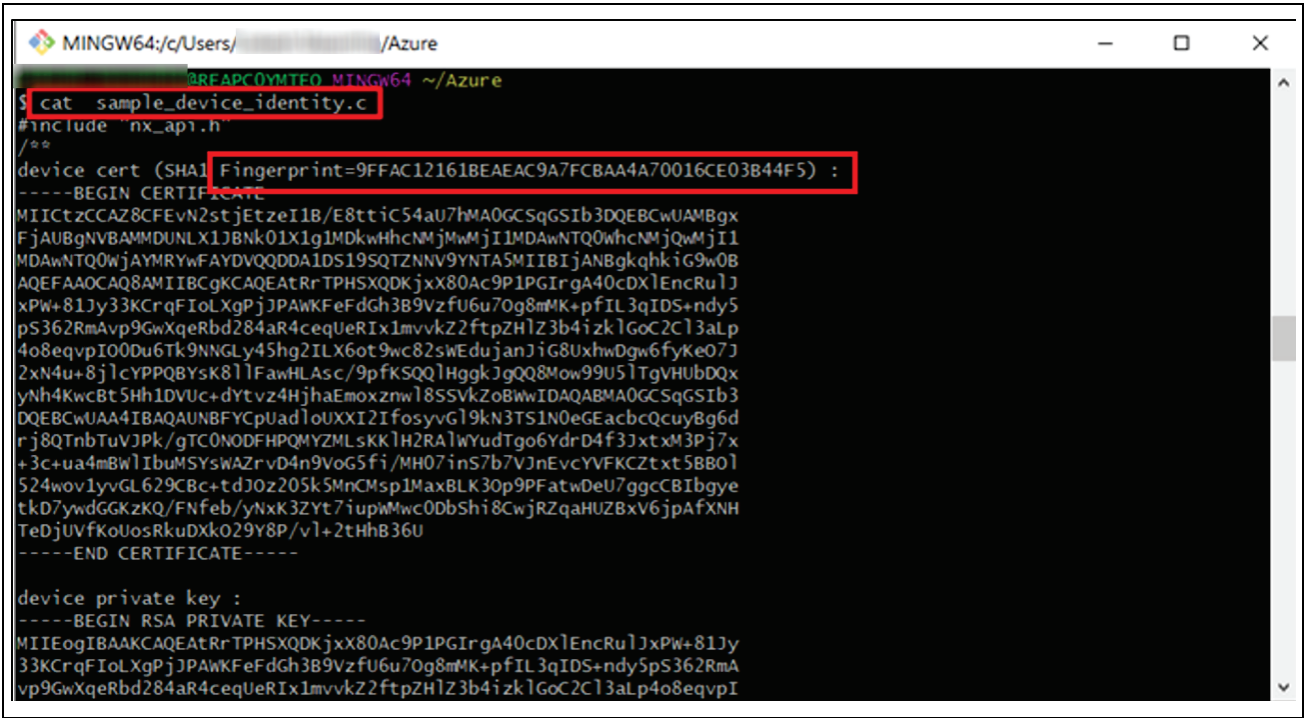
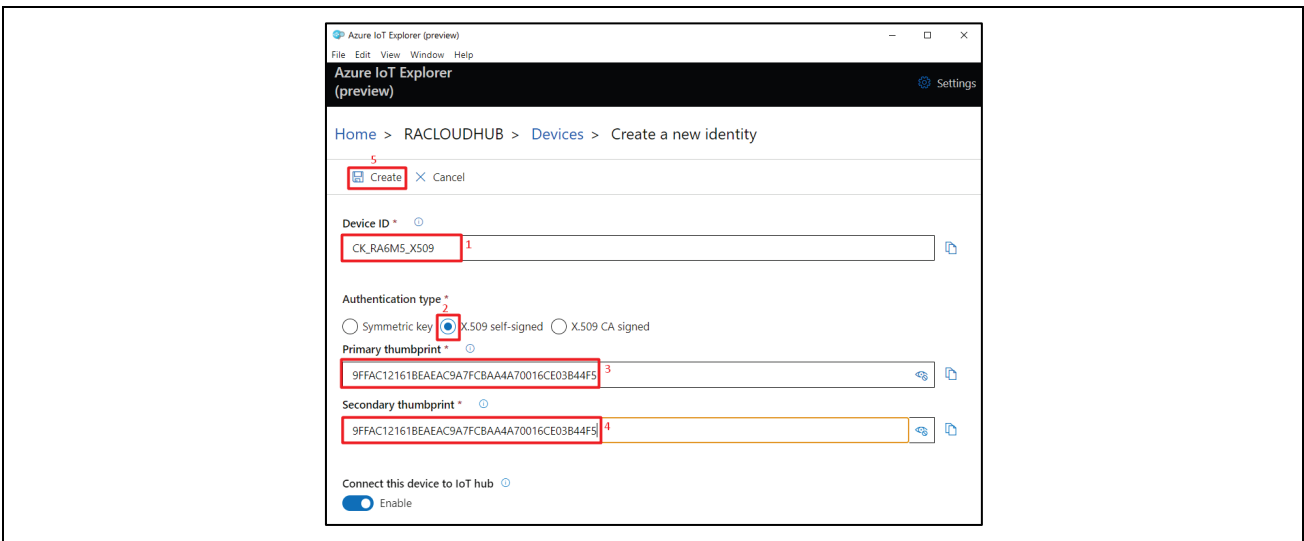

Figure 22. Check the Content of sample_device_identity.c
Figure 30. Naming, Authentication Type and Thumbprints
2. In this stage, you have to enter the Device ID, Authentication type, Primary thumbprint, Secondary thumbprint then click on **Create**. Use fingerprint generated in Figure 22 in the section 3.5. Certificate Creation Process, for the primary and secondary thumbprints. Follow steps 1-5 numbered in the Figure 30, to create the device.